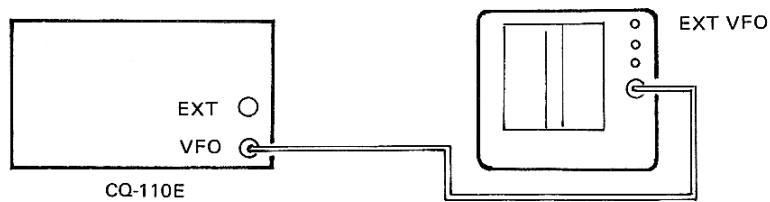

Fig. 4
- a. Connect the accessory cable to No.9 pin terminal of EXT VFO (Fig. 4).